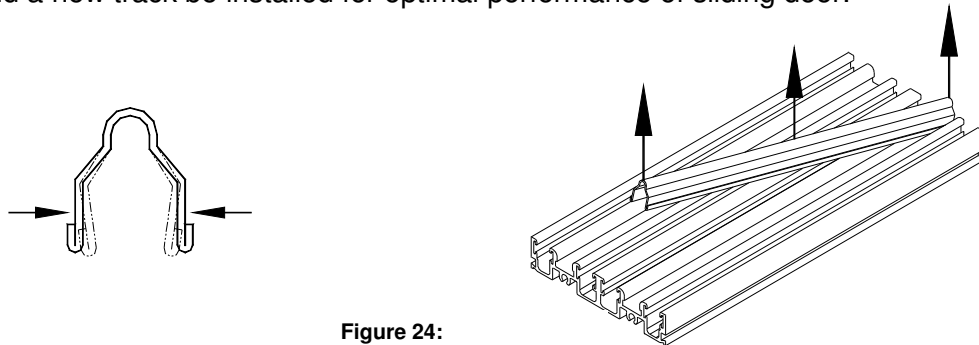

Figure 24:
1. Using a pair of pliers, slightly squeeze the track together at one end and pull up (Figure 24).